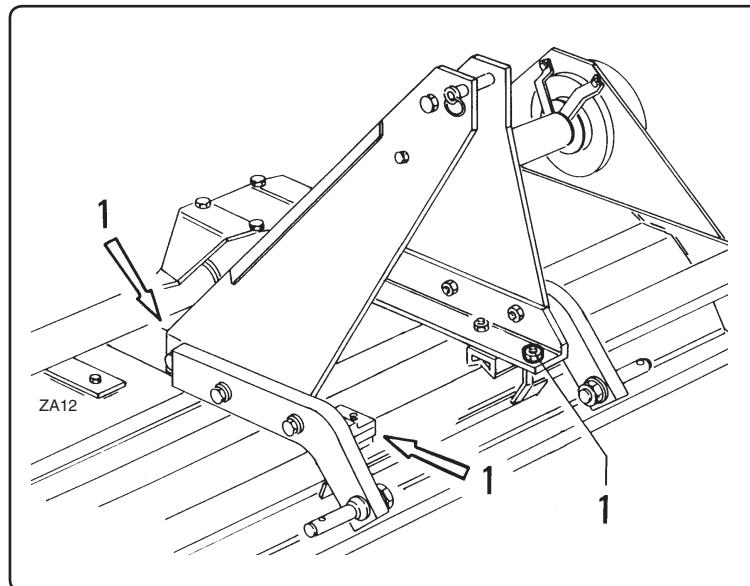

fig. 5.6.3
- loosen nuts "1" fig. 5.6.3 without completely unscrewing them.